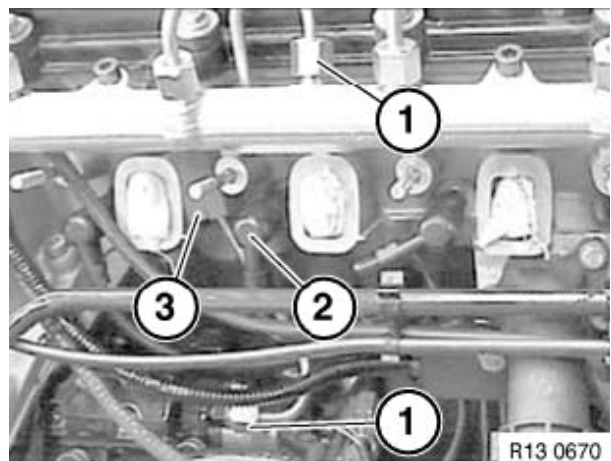

Figure 5-13
18. Remove pump-to-fuel rail high-pressure line (**Figure 5-13, (1)**).
Note: 4BY Engines: Note the position of the rubber mount (**Figure 5-13, (3)**) for reassembly.
19. Remove glow plugs (**Figure 5-13, (2)**). See *Remove and Install Glow Plugs* on page 5-18.